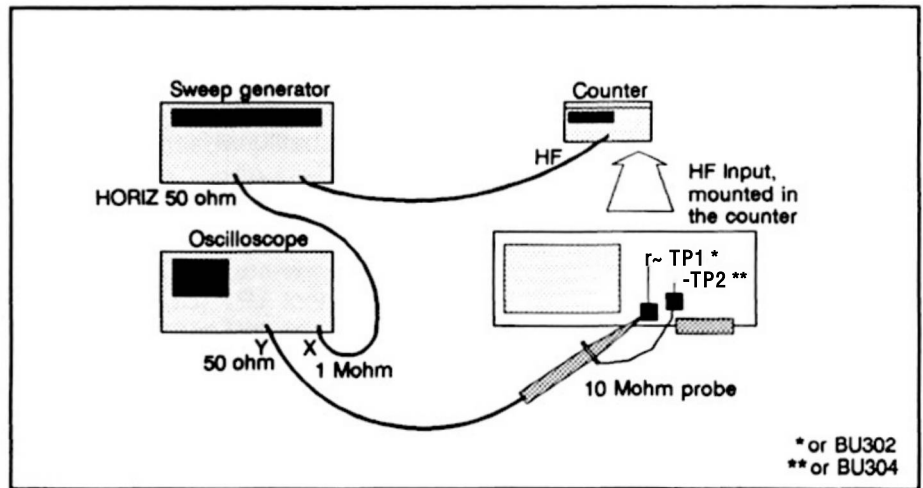

Figure 75. Measuring setup for sweep measurement.
- Interconnect TP1 (BU302) and TP2 (BU304). The location of these can be seen in figure 75 on page 70.